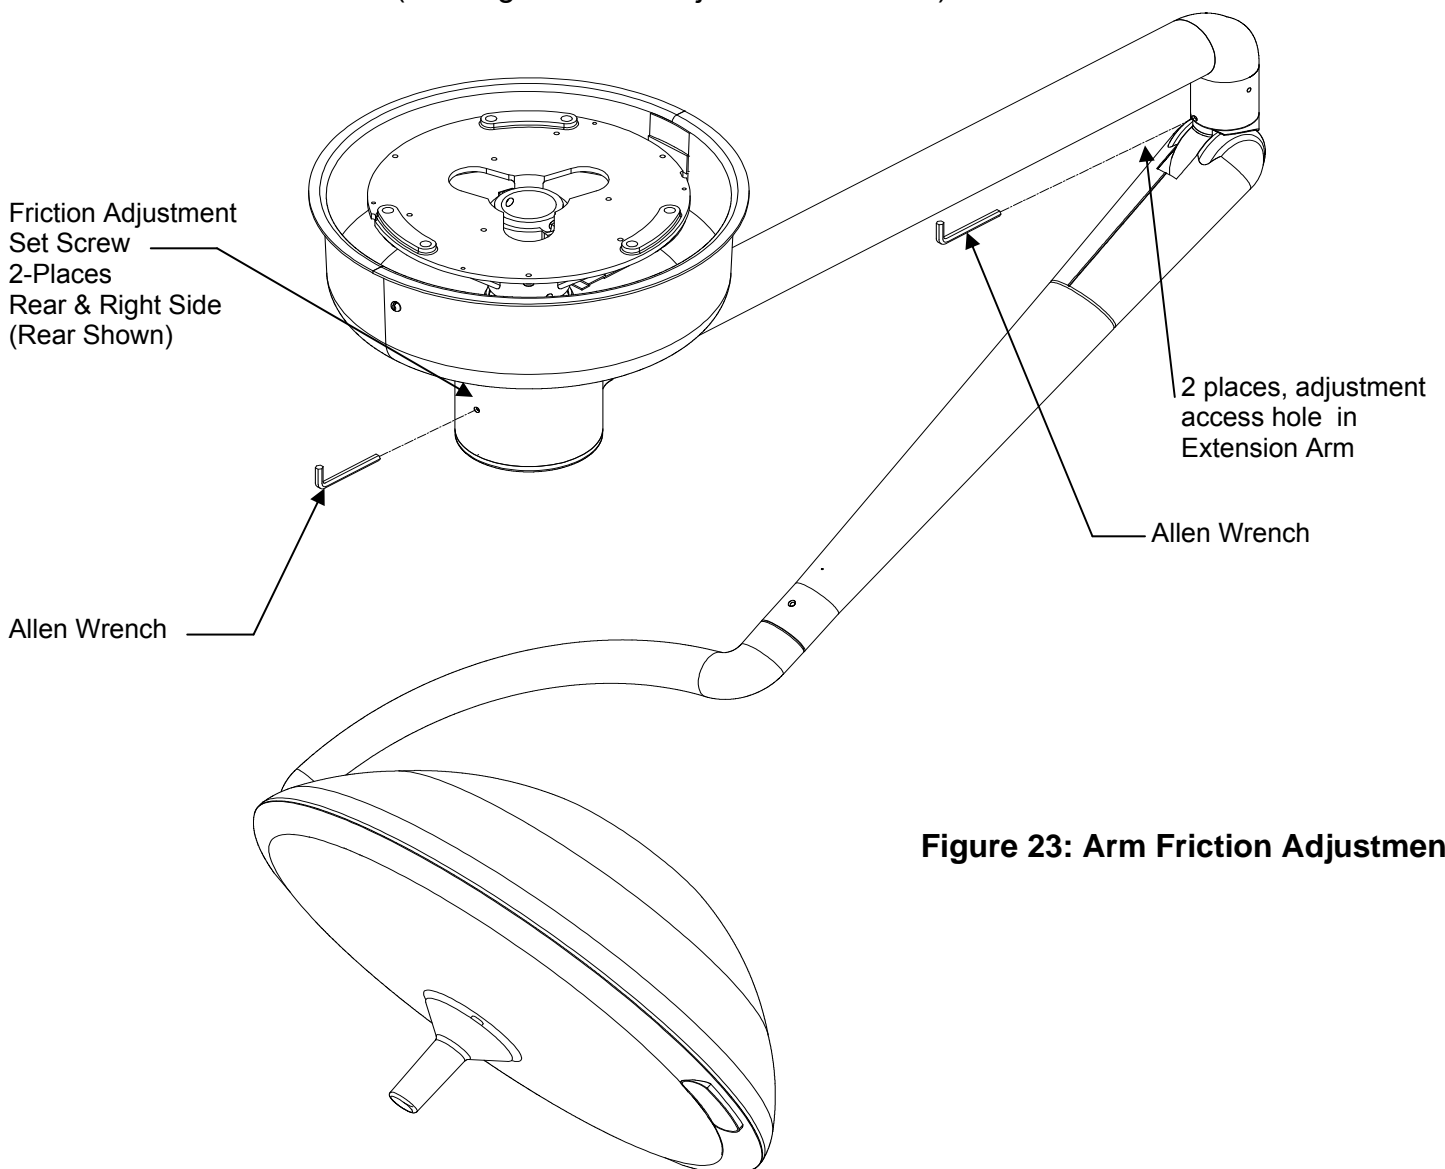

Figure 23: Arm Friction Adjustment
- Using the Allen wrench (supplied in the hardware kit) turn the 2 set screws located on the arm housing clockwise to increase friction or counterclockwise to decrease friction. (See Figure 23 for adjustment location). If the head and articulating arm are drifting, adjust the brake located on the extension arm.
- Using the Allen wrench (supplied in the hardware kit) turn the set screw (2 locations) located on the elbow clockwise to increase friction or counterclockwise to decrease friction. (See Figure 23 for adjustment location)